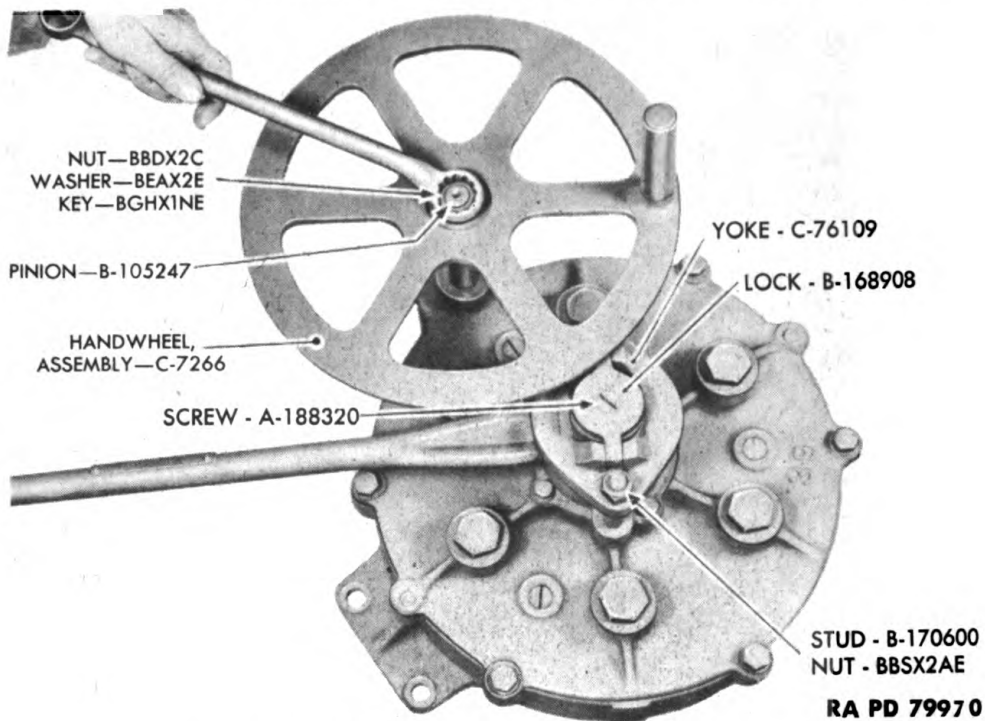

Figure 172—Removing Elevating Handwheel
(1) Remove nut BBDX2C and washer BEAX2E from pinion B105247 (fig. 172). Tap handwheel assembly C7266 off pinion and remove key BGHX1NE.
(2) Remove screw A188320 from lock B168908.
(3) Remove two nuts BBSX2AE from studs B170600. Pry lock